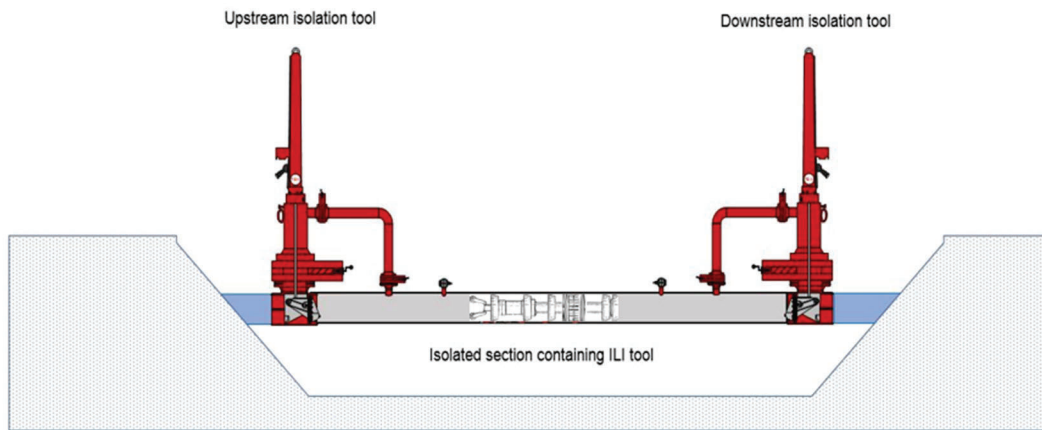

Figure 16. Removing the pig or tool from the line using isolation techniques.
- Figure 16.** Pipeline Technology Conference 2021, Lost and Found: An In-Line Inspection Tool Case Study, Alan Morton.